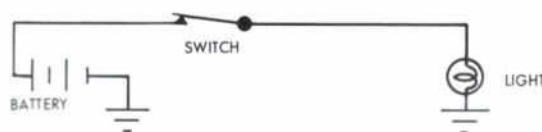

Fig. 3 — Single Unit Circuit
- If the fault is in a single-unit in a multiple-unit circuit, start the test at the unit (Fig. 3).